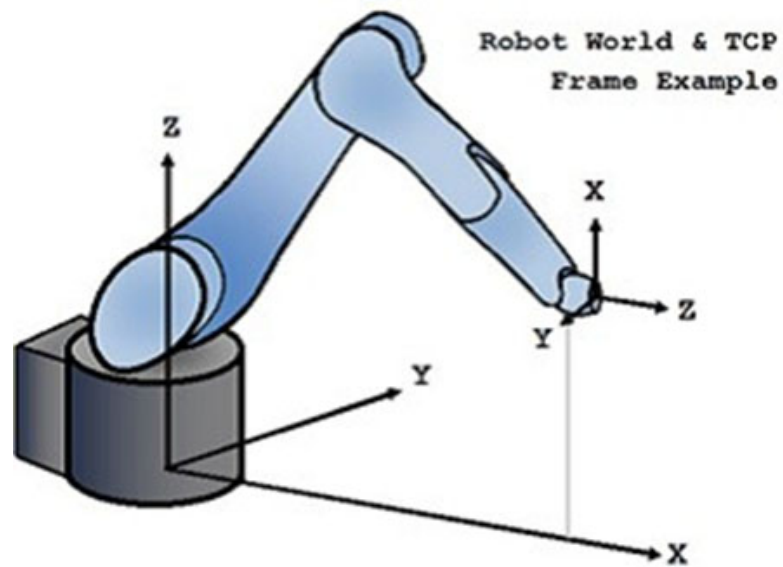

Figure 274: Robot World & TCP Example
9. Set the direction for which the robot was moved with respect to the robots TCP frame. Figure 274 on page 260 provides an example of how the robot TCP frames may be aligned.